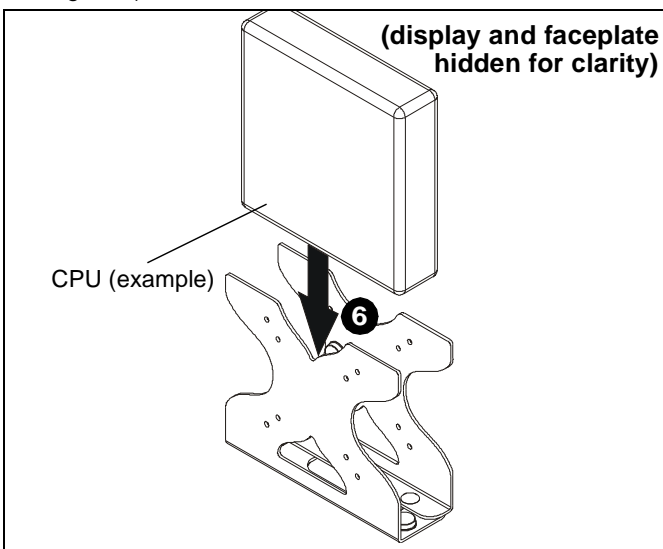

Figure 6
- Carefully place CPU device into KRA234 frame. (See Figure 6)